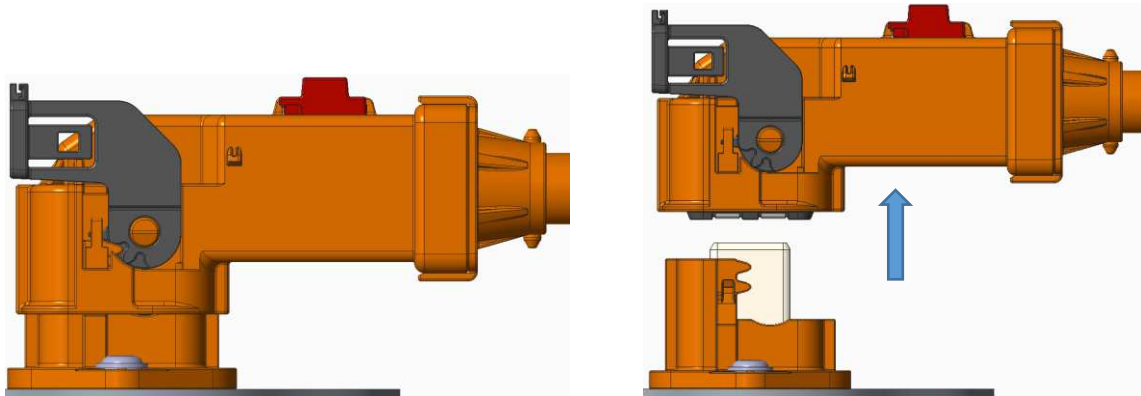

Figure 22: Plug and Header Unmate
3. Holding the connector body pull the plug until it is completely separated from the header as shown in Figure 22.